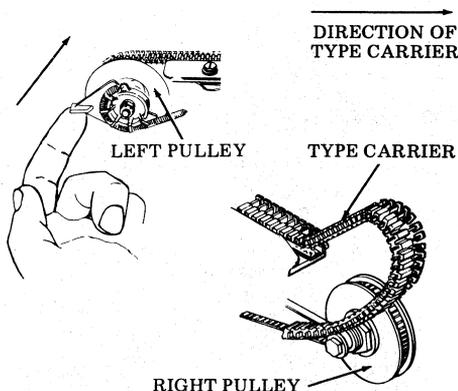

Fig. 43—Type Carrier Installation
- (c) Install type carrier starting at left pulley. Lift finger lever on left pulley and position carrier over right pulley (Fig. 43).